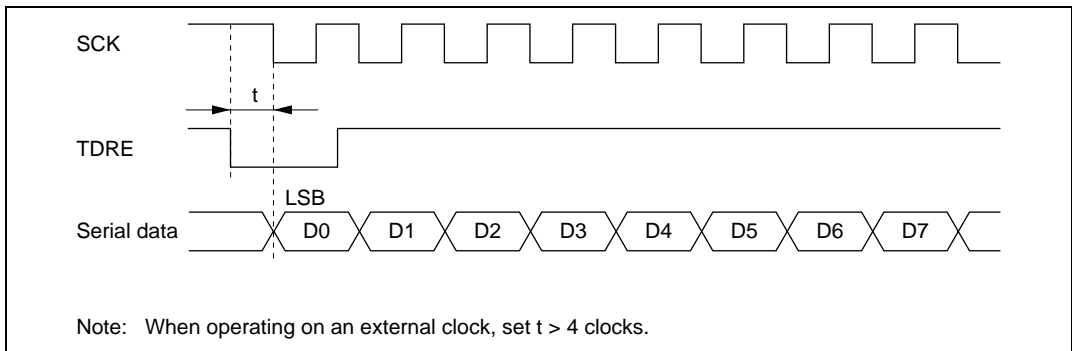

Figure 13.35 Example of Synchronous Transmission Using DTC
- When an external clock source is used as the serial clock, the transmit clock should not be input until at least 5ϕ clock cycles after TDR is updated by the DTC. Misoperation may occur if the transmit clock is input within 4ϕ clocks after TDR is updated. (Figure 13.35)